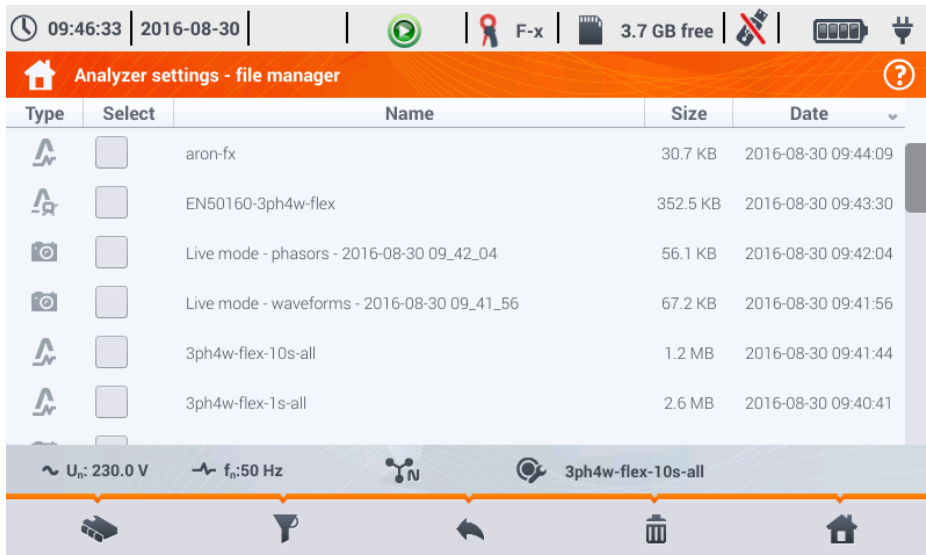

Fig. 18. Analyzer settings - File manager.
- **FILES** - This panel allows user to view and manage files saved in the storage media of the analyzer. After selecting it, a window appears with a list of files as shown in Fig. 18.